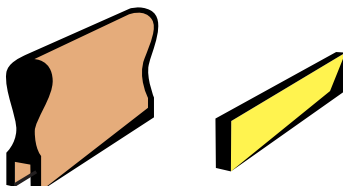

Fig. 4
1. Wood squeegee handle. Order the handle and squeegee blade. Request the handle and blade without the holes drilled. (No need for bolts. Fig. 4)